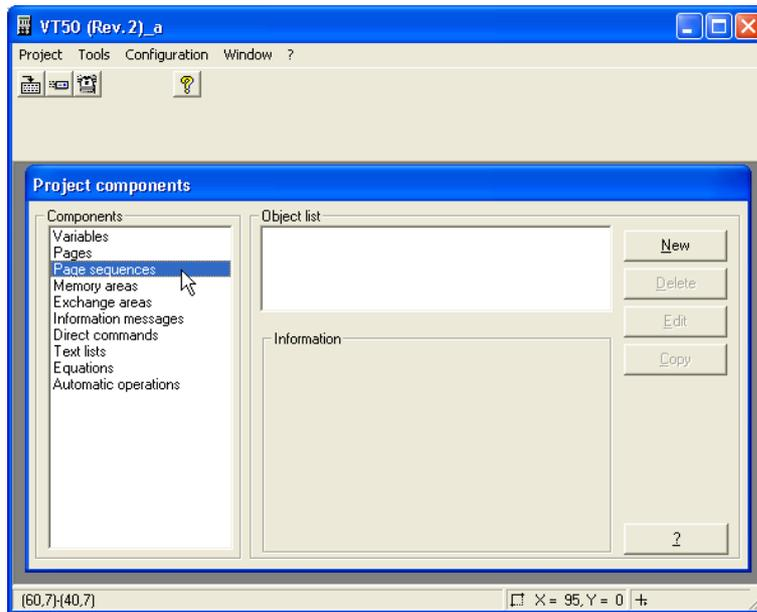

Fig. 31.
3.27 Close the Page No. 0003 window and then highlight the *Page sequences* option from the *Project components* window and double-click on it as shown in Fig 31.